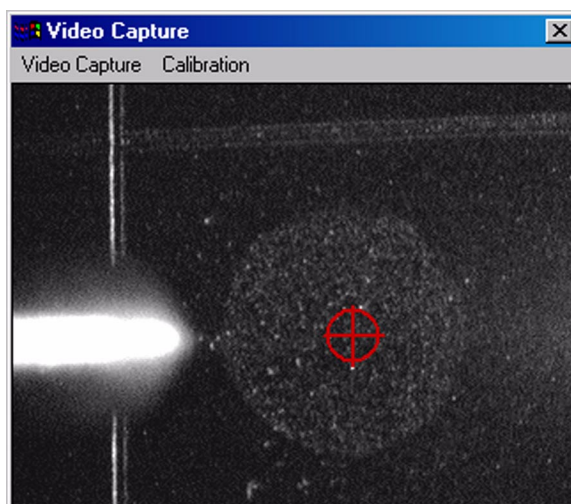

Figure 156 Video Capture screen after calibration was completed in step 5
- 6 In step 5 of the calibration procedure, click **Finish** to accept the new calibration. See Figure 156.